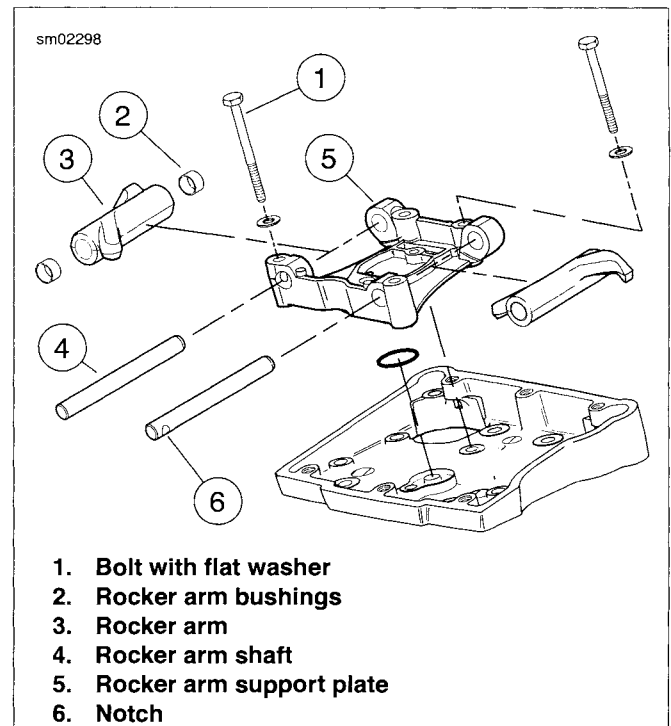

Figure 3-86. Rocker Arm Assembly
1. See Figure 3-86. Remove four bolts with flat washers (1) from the rocker arm support plate (5). The rocker arm shafts (4) on the push rod side (right) are notched to lock them in position.
2. Using a hammer and brass drift, tap left side of rocker arm shafts (4) so that the notched ends exit the rocker arm support plate (5) first. Mark the shafts so that they are installed in their original locations at time of assembly.
2. See Figure 3-86. Check rocker arms (3) for uneven wear or pitting where contact is made with the valve stem tips. Check for concave wear where rocker arms contact the push rod ends. Replace rocker arm if excessive wear is found at either location.
3. Verify that oil holes in rocker arms and rocker arm support plate (5) are clean and open.
4. Inspect rocker arm shafts (4) for scratches, burrs, scoring or excessive wear. Replace as necessary.